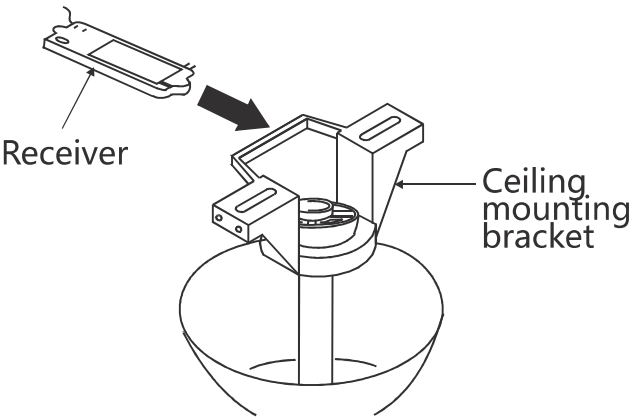

Fig.14
Step 1. Insert the receiver into the ceiling mounting bracket with the flat side of the receiver facing the ceiling (Fig.14). For best performance, make sure the black antenna, on the end of the receiver, remains extended and not tangled with any of the electrical wires.